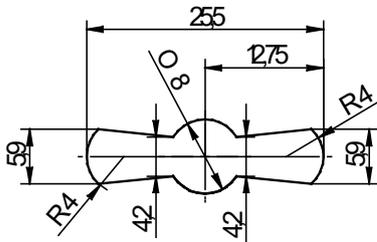

Fig. 1: Key guide 86101
- Use of the dormakaba key guide (see Fig. 1) or of the dormakaba key carrier guide (see Fig. 2) is recommended. Considering DIN 2768-mH, the keyhole in the door of the secure storage unit should be dimensioned accordingly (see Fig. 1 or 2).